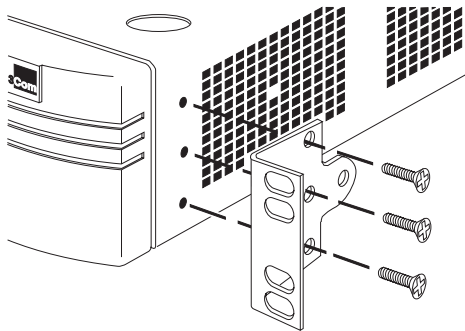

Figure 2-3 Rack Mounting the Switch 2000 TR
- 2 Position one of the enclosed mounting brackets over the mounting holes and attach. See Figure 2-3.